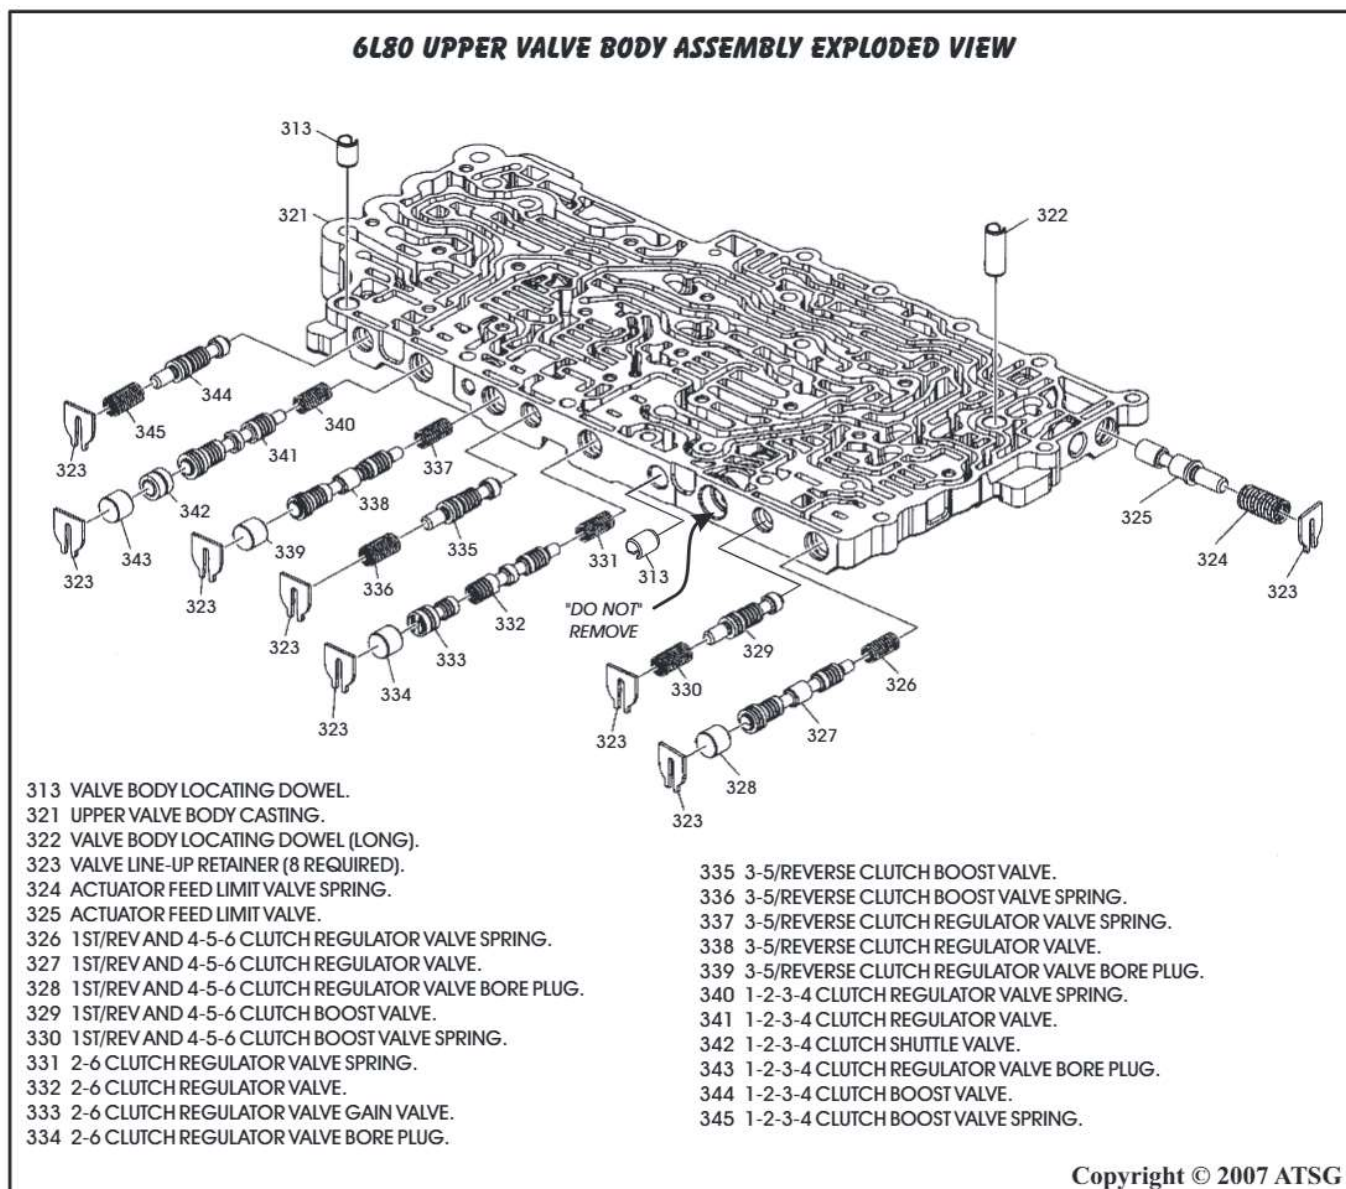

Figure 141
13. Disassemble the upper valve body assembly using Figure 141 as a guide.
Special Note: "Do Not" remove the clutch piston backfill blow-off plug, spring, or ball. The bore plug is pressed in to a precise depth. Refer to Figure 141 for location in the upper valve body assembly.
17. Install each valve train back into their bores **exactly**, as shown in Figure 141, lubricating them with Dexron VI® as they are installed.
19. Install the valve body locating dowels in the upper valve body, as shown in Figure 141.